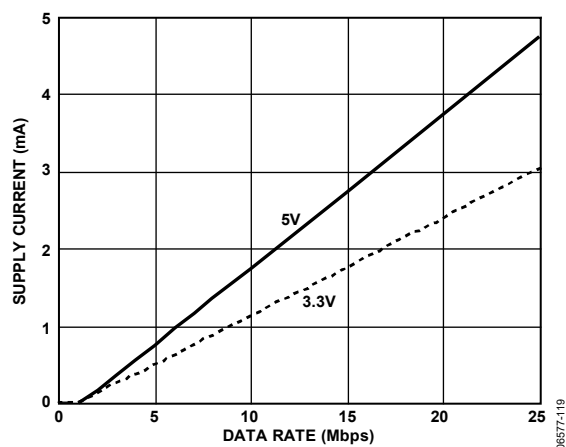
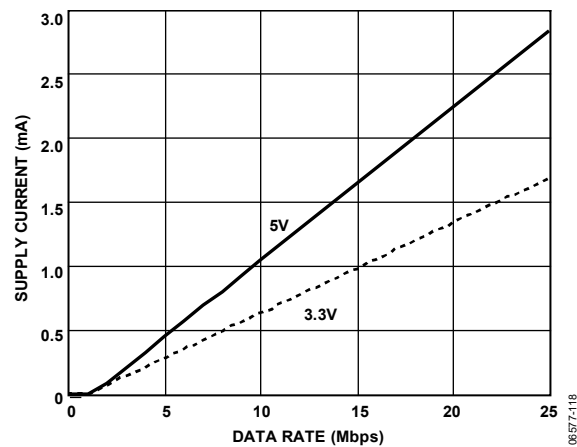

Figure 23. Typical $I_{ISO(D)}$ Dynamic Supply Current per Input
Figure 24. Typical $I_{ISO(D)}$ Dynamic Supply Current per Output (15 pF Output Load)
$I_{ISO (D)n}$ is the dynamic load current drawn from V_{ISO} by an input or output channel, as shown in Figure 23 and Figure 24.